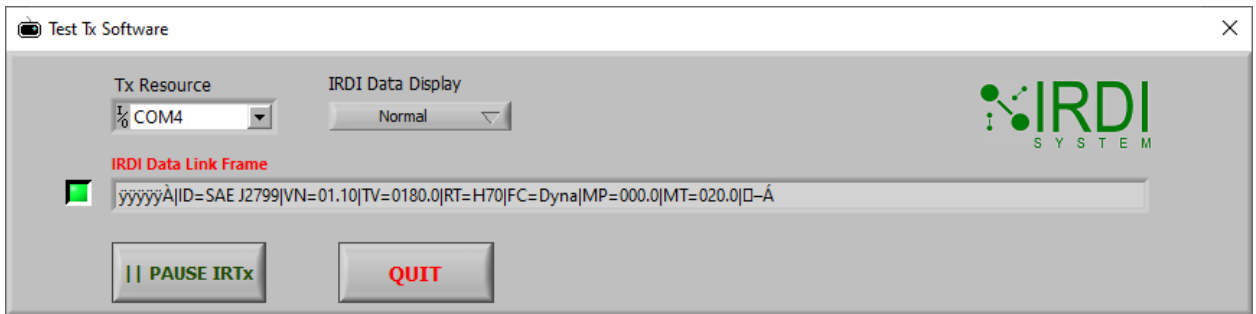

FIGURE 5-5: RUNNING STATE
STEP 1	<p>Click on the “ Pause IRTx” button (see below). The text on the button will change to “> Run IRTx”. The indicator light next to the “IRDI Data Link Frame” will stop flashing. The transmitter’s red flashing indicator will stop flashing as in Figure 5-5.</p>